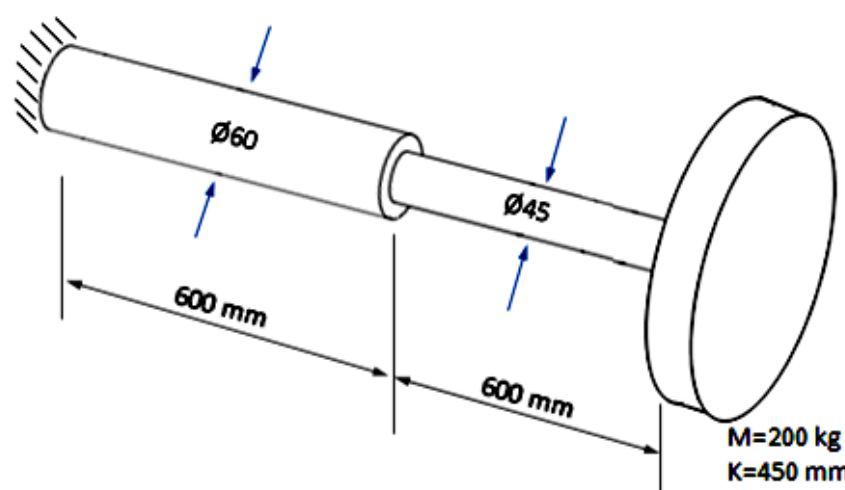

Fig.4
9. (a) Find the free torsional vibration frequency of a shaft as shown in Fig.4. Mass of the disc at the free end is 200 kg and its radius of gyration about the longitudinal axis of the shaft is 200 mm. Ignore the inertia of the shaft.